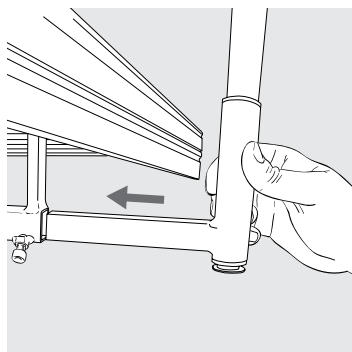
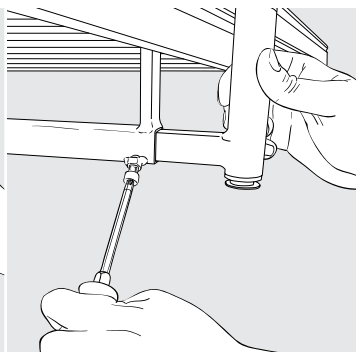

Fig. 4
Fig. 5
- Push the assist handle into the cross-bar bracket (Fig 4), adjust it to the desired position and fasten it. (Fig. 5).